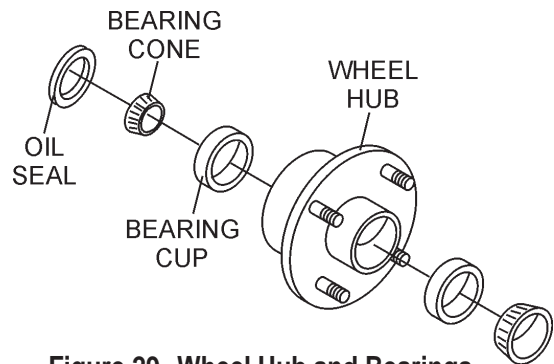

Figure 29. Wheel Hub and Bearings
1. After every 3 months of operation, remove the hub dust cap and inspect the wheel bearings (Figure 29). Once a year, or when required, disassemble the wheel hubs remove the old grease and repack the bearings forcing grease between rollers, cone and cage with a good grade of high speed wheel bearing grease (**never** use grease heavier than 265 A.S.T.M. penetration (“No. 2.”)